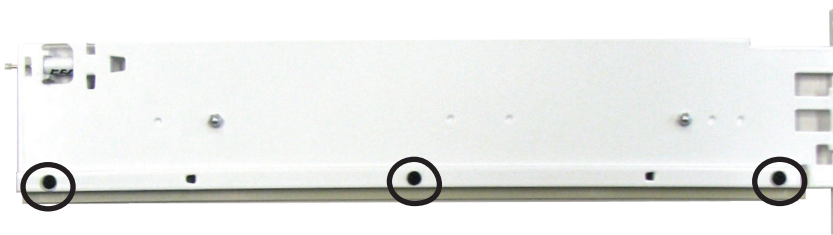

Fig. G-3
5. Remove the (3) screws holding the Rack Gear to the bottom slide rail (**Fig. G-3**).